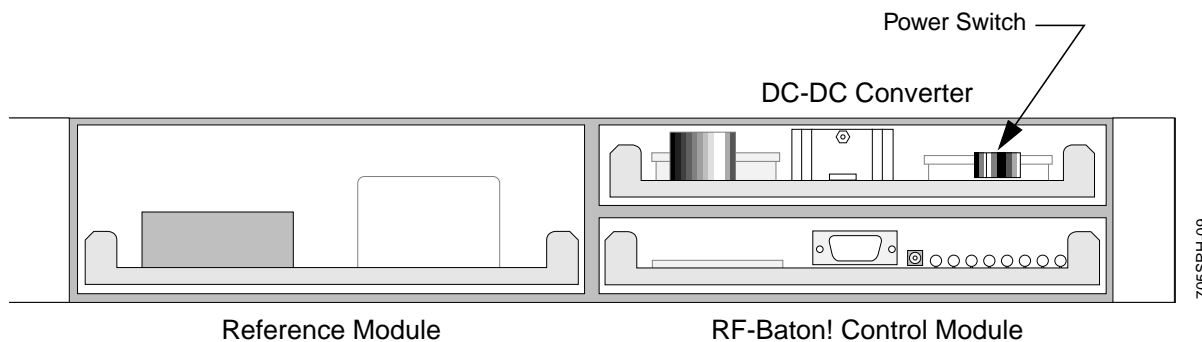
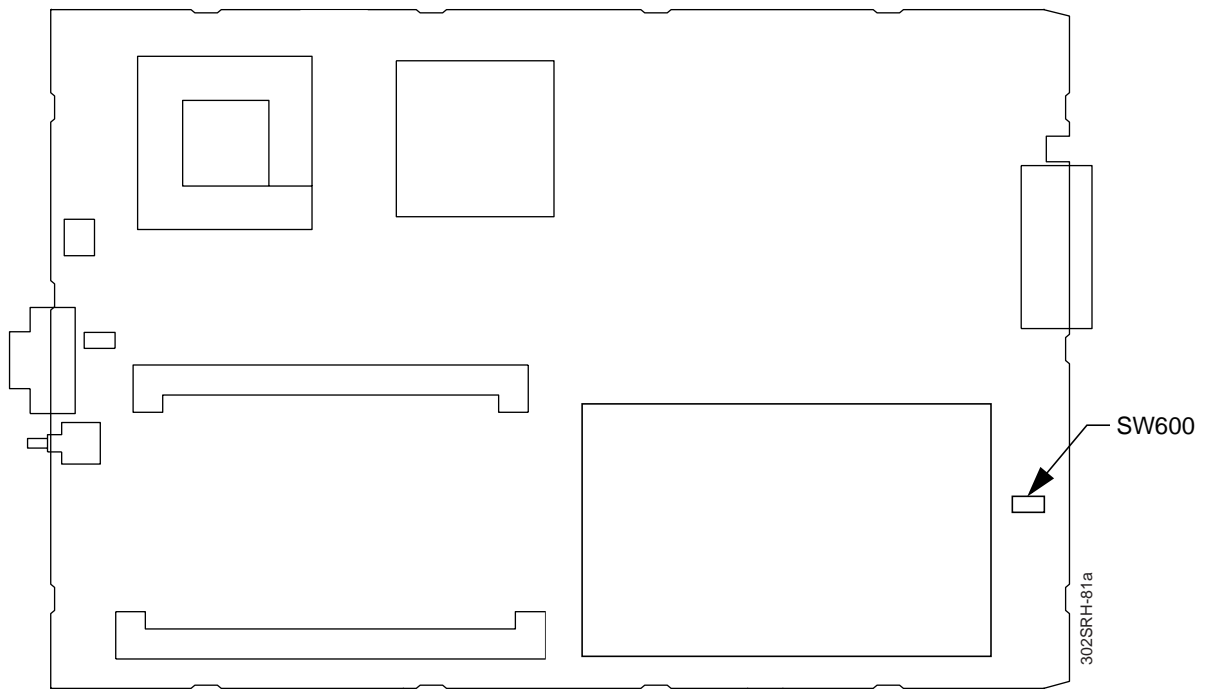

Figure 6-11: RF-B! Transmitter Controller (Front Panel Removed)
Figure 6-12: BCM Component Layout—DIP Switch S2 (SW600) Location
3. Gently pull the BCM straight out (see Figure 6-11).
4. Set Switch 2 of Dual In-line Package (DIP) switch SW600 to ON (see Figure 6-12).
5. Gently place the BCM into the slot in the RF-B! transmitter controller chassis, firmly seating the board card-edge connectors into the backplane (see Figure 6-11).
8. After the boot up, set the RF-B! transmitter controller POWER switch to OFF (O).
10. Set Switch 2 of DIP SW600 to OFF (see Figure 6-12).
11. Gently place the BCM into the slot in the RF-B! transmitter controller chassis, firmly seating the board card-edge connectors into the backplane (see Figure 6-11).